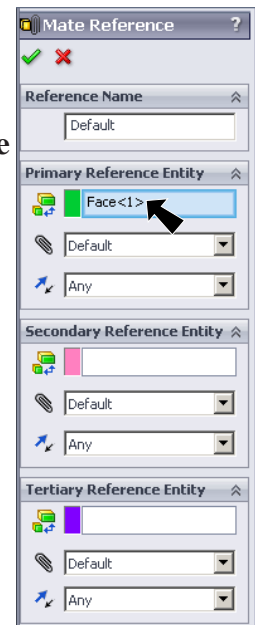

Fig. 7
Step 3. In the Mate Reference Property Manager click **OK** , **Fig. 7**.